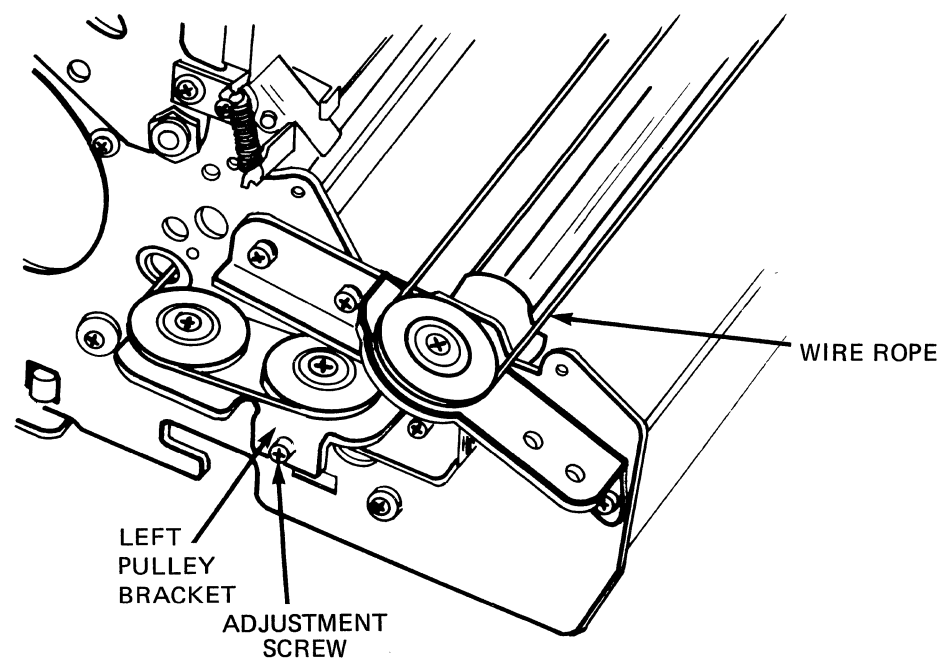

Figure 4-16 Wire Rope and Adjustment Screw Location
- e. Loosen the nut that locks the adjusting screw stud on the left pulley bracket (see Figure 4-16).